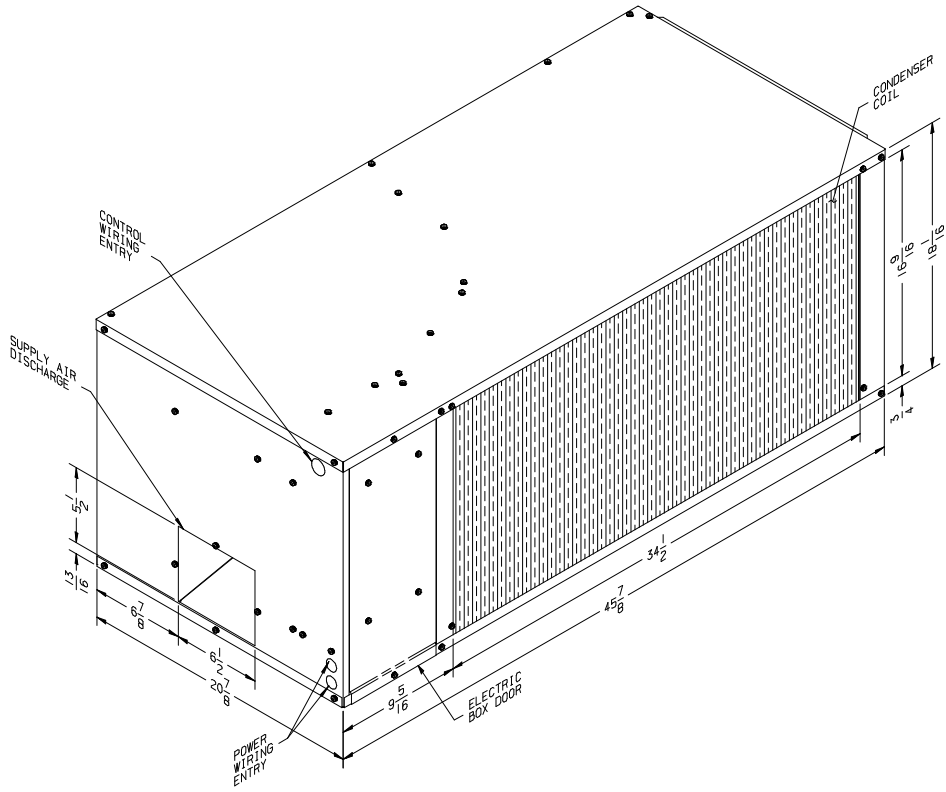

FIGURE 1
The outdoor air flow is drawn in through the side of the air conditioner (across the outdoor coil), and discharged out through the bottom of the appliance (through the discharge opening). Figures 1 and 2 show the location of both the outdoor coil and discharge air opening.
- 6) Do not install any other heat generating appliance in the same cavity as the heat pump. Additional heat in this cavity will decrease system performance in the cooling mode. Overall package dimensions are shown in Figure 1. Airxcel, Inc. requires that a minimum of 4 additional inches be allowed at the wiring box end of the unit to allow for the installation of both the low and high voltage wiring.
The preferred mounting configuration is the end outlet-side return configuration (Reference Figure 1). This system ducts the supply air out the end while the return air is drawn in through the side. With this configuration, one cut out will be required to match the end opening and another to match the back opening.